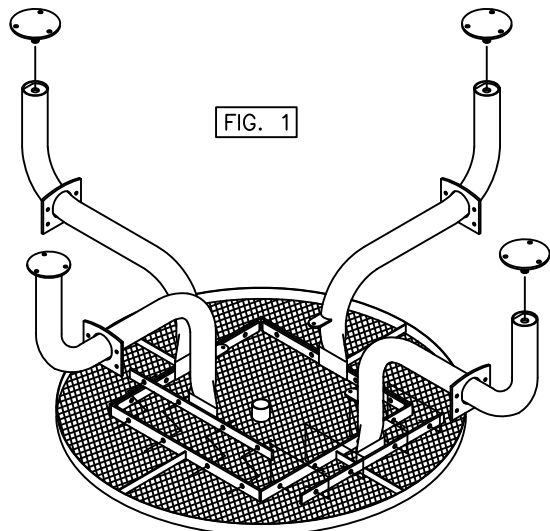

FIG. 1
Invert top (A-) and secure Spyder legs (C1) to the inside of the top's mounting brackets using one (F), (I), (J) and two (H) per (F), see FIG. 1. Attach screw in attachments (D2), see FIG. 1.